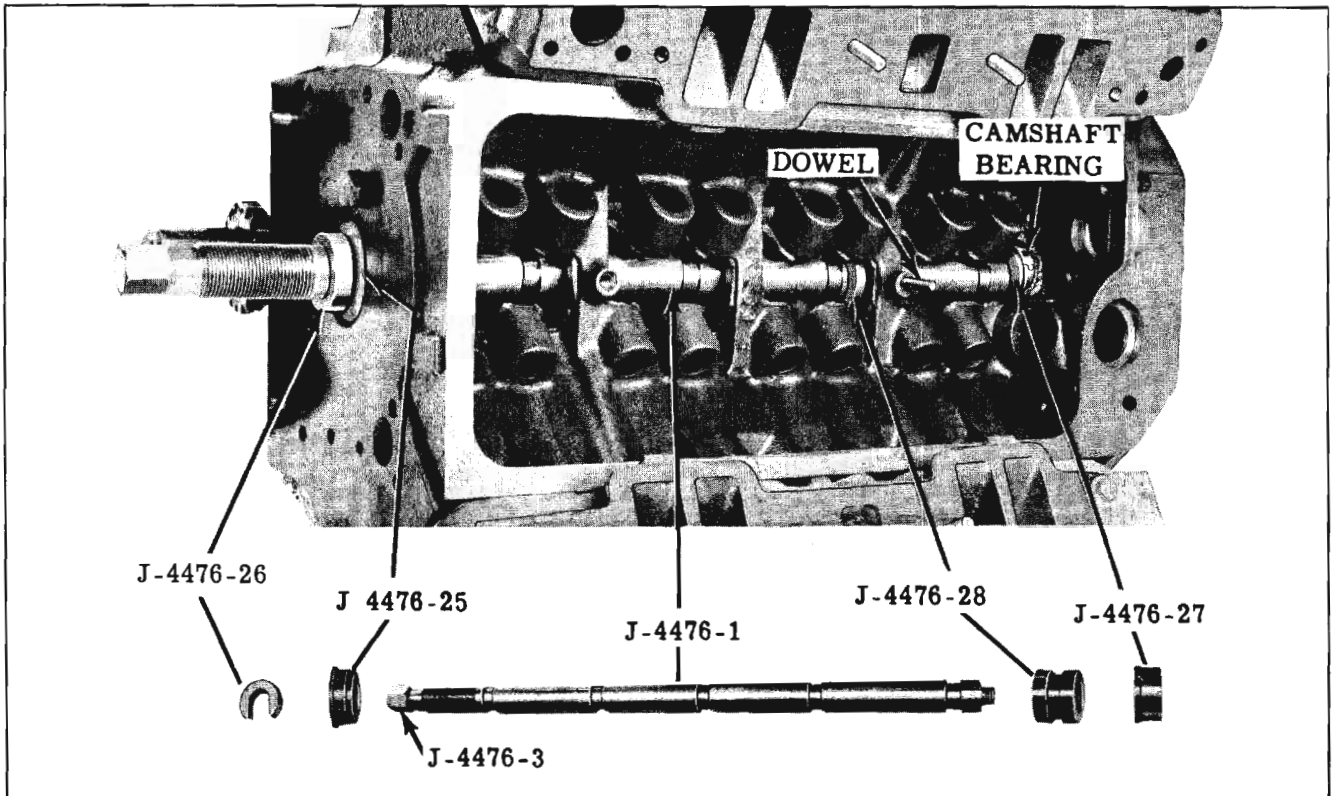

Fig. 8-42 Installing No. 5 Camshaft Bearing
- a. Assemble tools as shown in Fig. 8-42 and insert into engine block so that Installer J-4476-27 is past the No. 4 bearing opening.